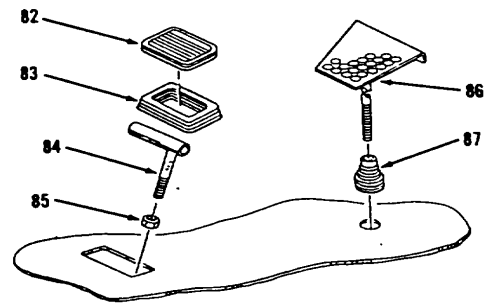
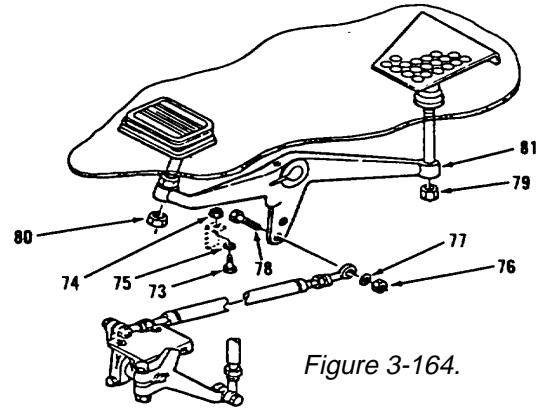
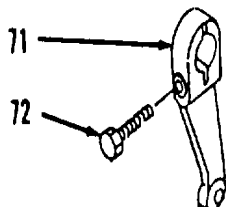

Figure 3-165.
Figure 3-164.
Figure 3-163.
22. Install boot (87) and treadle (86, Figure 3-165) in right side of floor in operator's compartment.
23. Install nut (85) and treadle (84).
24. Install boot (83) and pad (82).
25. Install lever (81, Figure 3-164).
27. Install bolt (78), washer (77) and nut (76).
28. Install washer (75), nut (74) and bolt (73).
29. Install bolt (71) in lever (72, Figure 3-163).